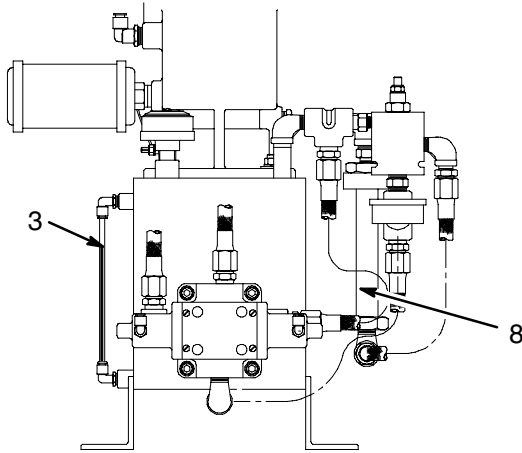

Fig. 13
5. Check the hydraulic fluid level (3) on the hydraulic supply unit (Fig. 13). Add more hydraulic fluid, if necessary.